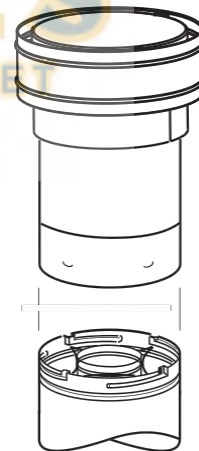

Figure 28
K. Install the vertical termination - The final step involves installation of the SV4.5CGV-1 Vertical Termination. Extend the vent sections to the height as shown in the "Vertical vent termination section" on **page 6**. The SV4.5CGV-1 Vertical Termination (**Figure 28**) installs in the exact same fashion as any other **Secure Vent** section. Align the termination over the end of the previously installed section, adjusting the radial alignment until the four locking dimples of the termination are aligned with the inlets of the four incline channels of the last vent section. Push the termination down until it fully engages, then twist the termination clockwise running the dimples down and along the incline channels until they seat at the end of the channels.